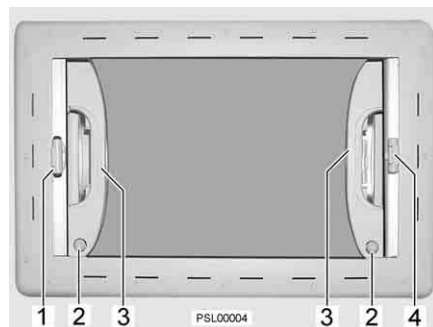

Fig. 20 Hinged sliding roof
Opening: ■ Grasp one handle (Fig. 20,3) in each hand and move the hinged sliding roof to the desired position.
■ If the hinged sliding roof is open in upward direction, push the retainers (Fig. 20,2) and use the handles to push the hinged sliding roof back.
- Push the red release knobs on the handle (Fig. 20,1) together and use the handle to pull the blind to the desired position.
- Push the red release knobs on the handle (Fig. 20,1) together. The latch is released.
- Pull insect screen at the handle (Fig. 20,4) to the opposite handle of the blind (Fig. 20,1) and allow to engage.